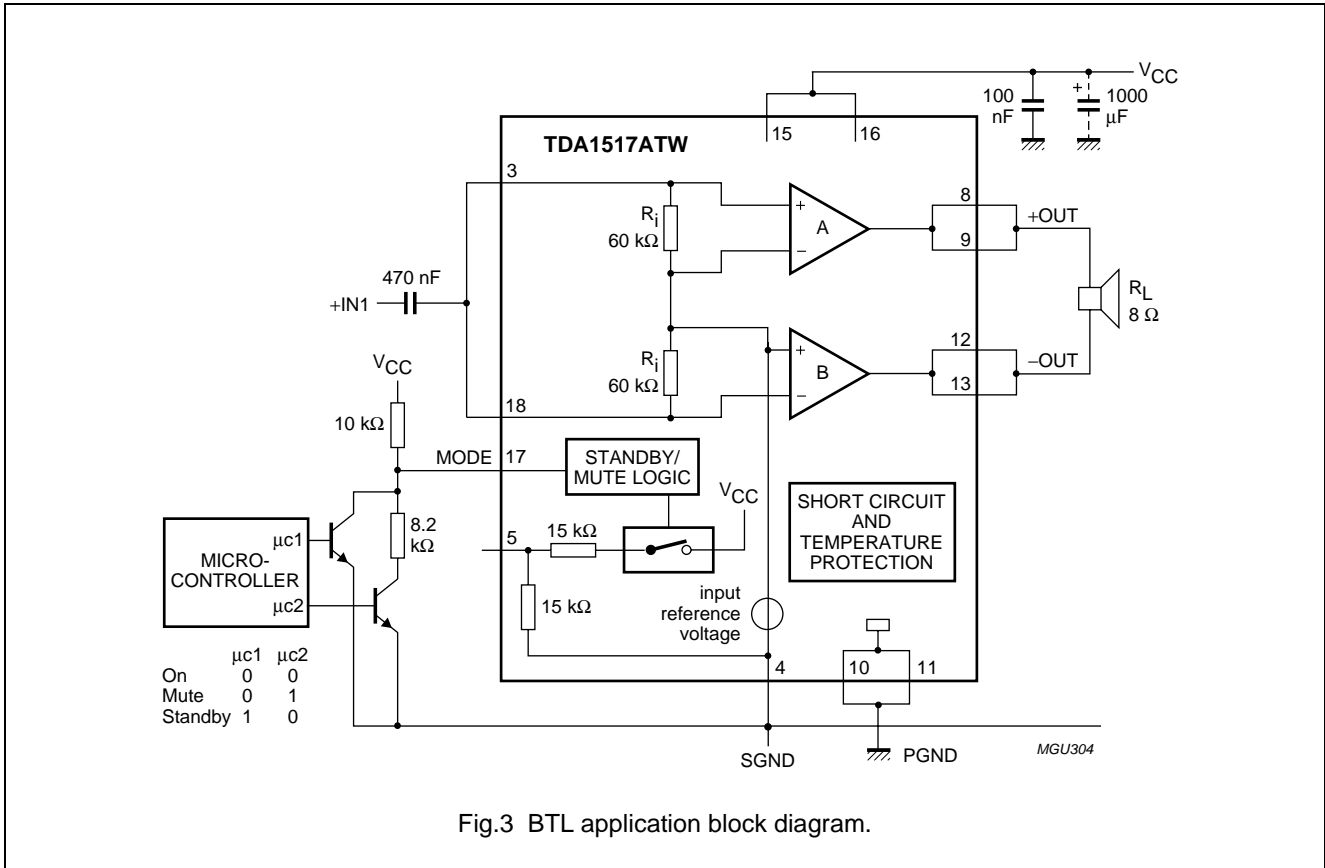

Fig.3 BTL application block diagram.
$V_P = 12$  V;  $T_{amb} = 25$  °C; measured in Fig.3; unless otherwise specified.
8.  $R_L = 8 \Omega$ , measured in Fig.3.
The BTL application block diagram is shown in Fig.3. The PCB layout [which accommodates both the mono (BTL) and stereo (single-ended) application] is shown in Fig.6.